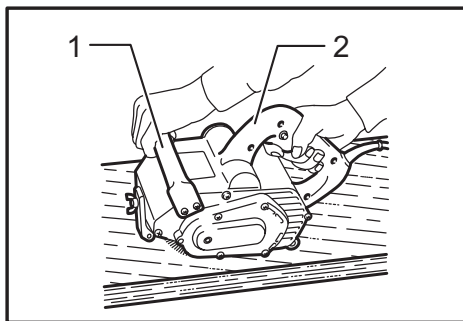

Fig.6
► **Fig.6:** 1. Grip 2. Handle